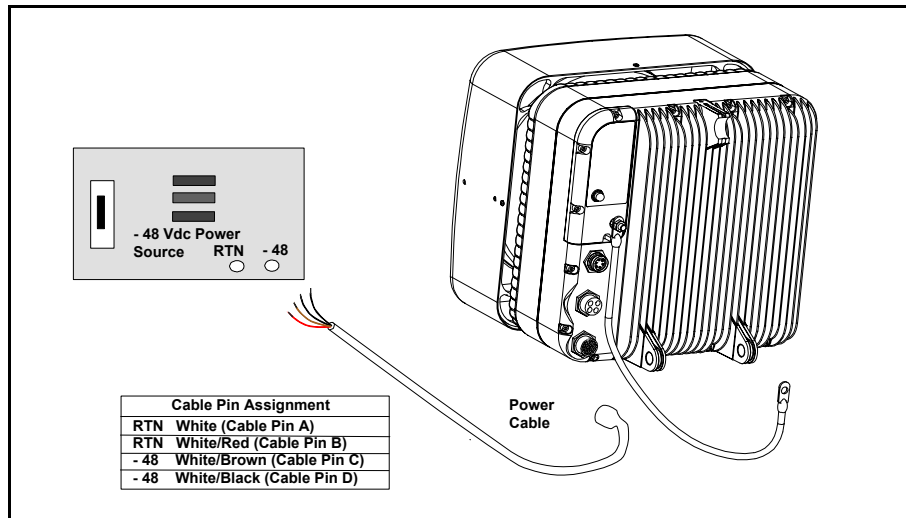

Figure 2-2. IFU Power Cable Hookup
- 2 Connect the IFU power cable to the – 48 Vdc power source as shown in Figure 2-2.